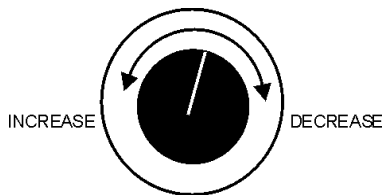

**Figure 42. Frequency Meter (Hz)**
9. The generator's frequency meter (Figure 42) displays the 60 cycle output frequency in **HERTZ**.